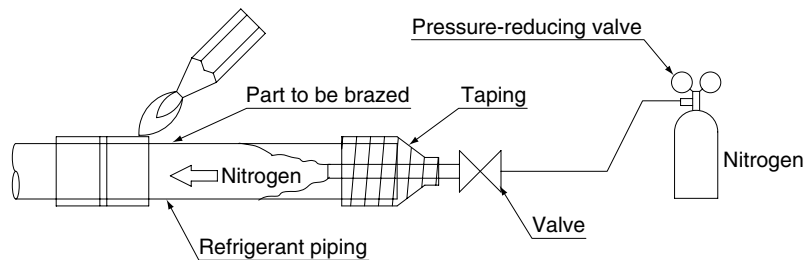

Fig. 5
- When brazing refrigerant piping, begin working after replacing the nitrogen (\*1) or perform brazing while nitrogen is flowing in the refrigerant piping (\*2) (Refer to Fig. 5), and at the end made the indoor unit and BS unit flare connection.